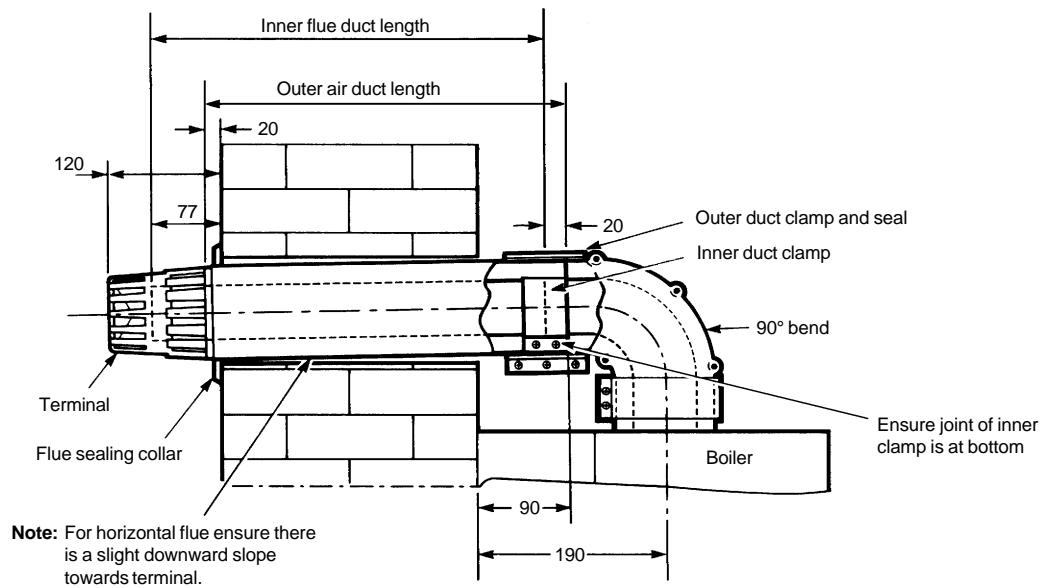

Fig. 12 - Rear flue
4.6 FIT THE FLUE - Figs. 12, 13
4. Mark the outer air duct to match the length given above, measure from the end of the tube as shown in Figs. 12 and 13.
10. Position the seal and clamp (two screws), supplied with the bend, over the boiler flue adaptor. Fit the bend and rotate to the correct position, then secure in position. See Fig 12.
11. Place the inner (no seal) duct clamp in position over the bend outlet as shown in Figs. 12 and 13, and position the outer duct seal over the bend.
4.7 FIT A FLUE EXTENSION - Figs. 12, 13
5. When measuring the outer duct, measure from the end of the tube as shown in Figs. 12 and 13.